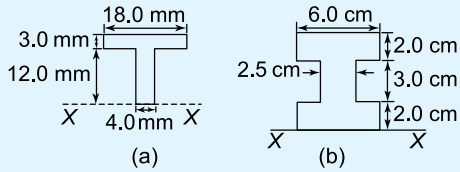

Figure 9.24
9. For the sections shown in Figure 9.24, find the second moment of area and the radius of gyration about axis XX .